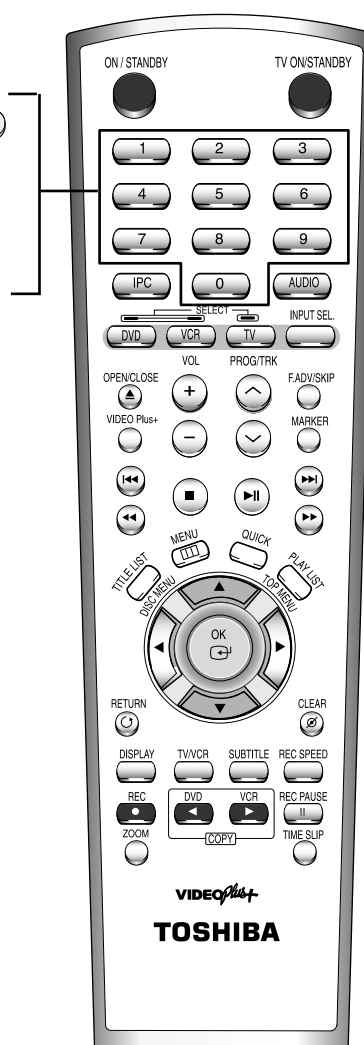

Fig. 4-1
- 3) Press the “1, 0” buttons; remote control adjustment operates automatically. (See Fig. 4-1)
- 3) Press the "0, 5" remote control buttons, then adjustment is operates automatically. (See Fig. 4-1)